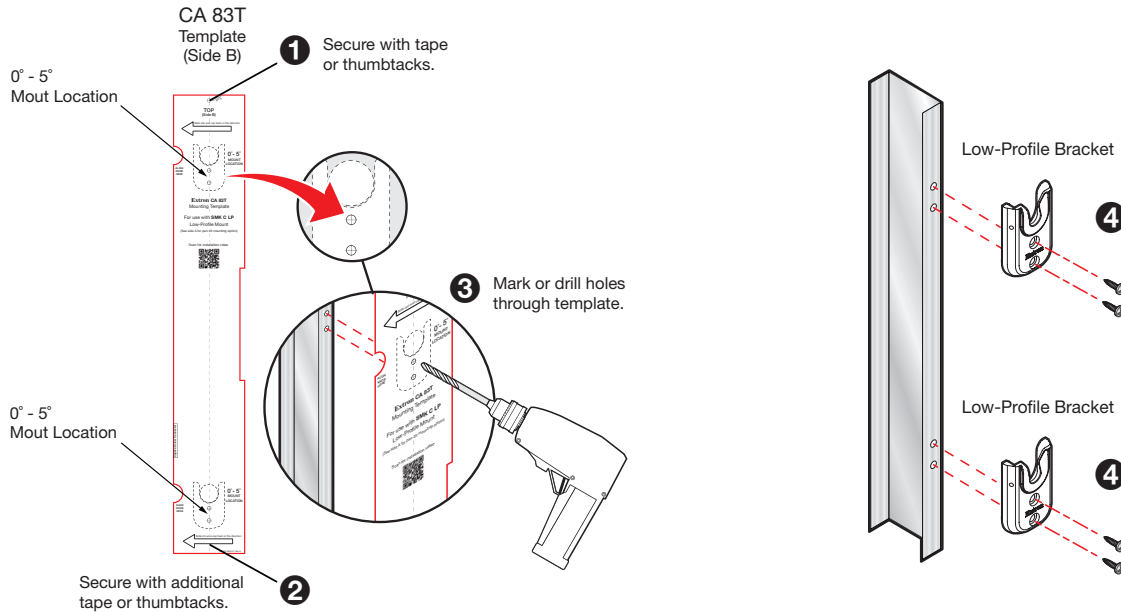

Figure 4. Installing the SMK LP CA Low-Profile Brackets
1. Position the CA 83T mounting template, side B (see figure 4), to the wall where you want to mount the speaker. Use a pushpin or piece of tape to secure the top end of the template to the wall (1). Ensure the template is level, then secure the bottom end with an additional pushpin or piece of tape (2).
2. Mark four screw locations or drill four pilot holes through the template (3), for four screws (not included) to secure two Low-Profile Brackets to the wall.
6. Use appropriate hardware to securely attach the low-profile brackets to the wall (4) (example – using #14 x 1 3/4" self-tapping wood or metal screws and 1/4" SAE washers). **DO NOT** mount Low-Profile Brackets over the Mounting Template.